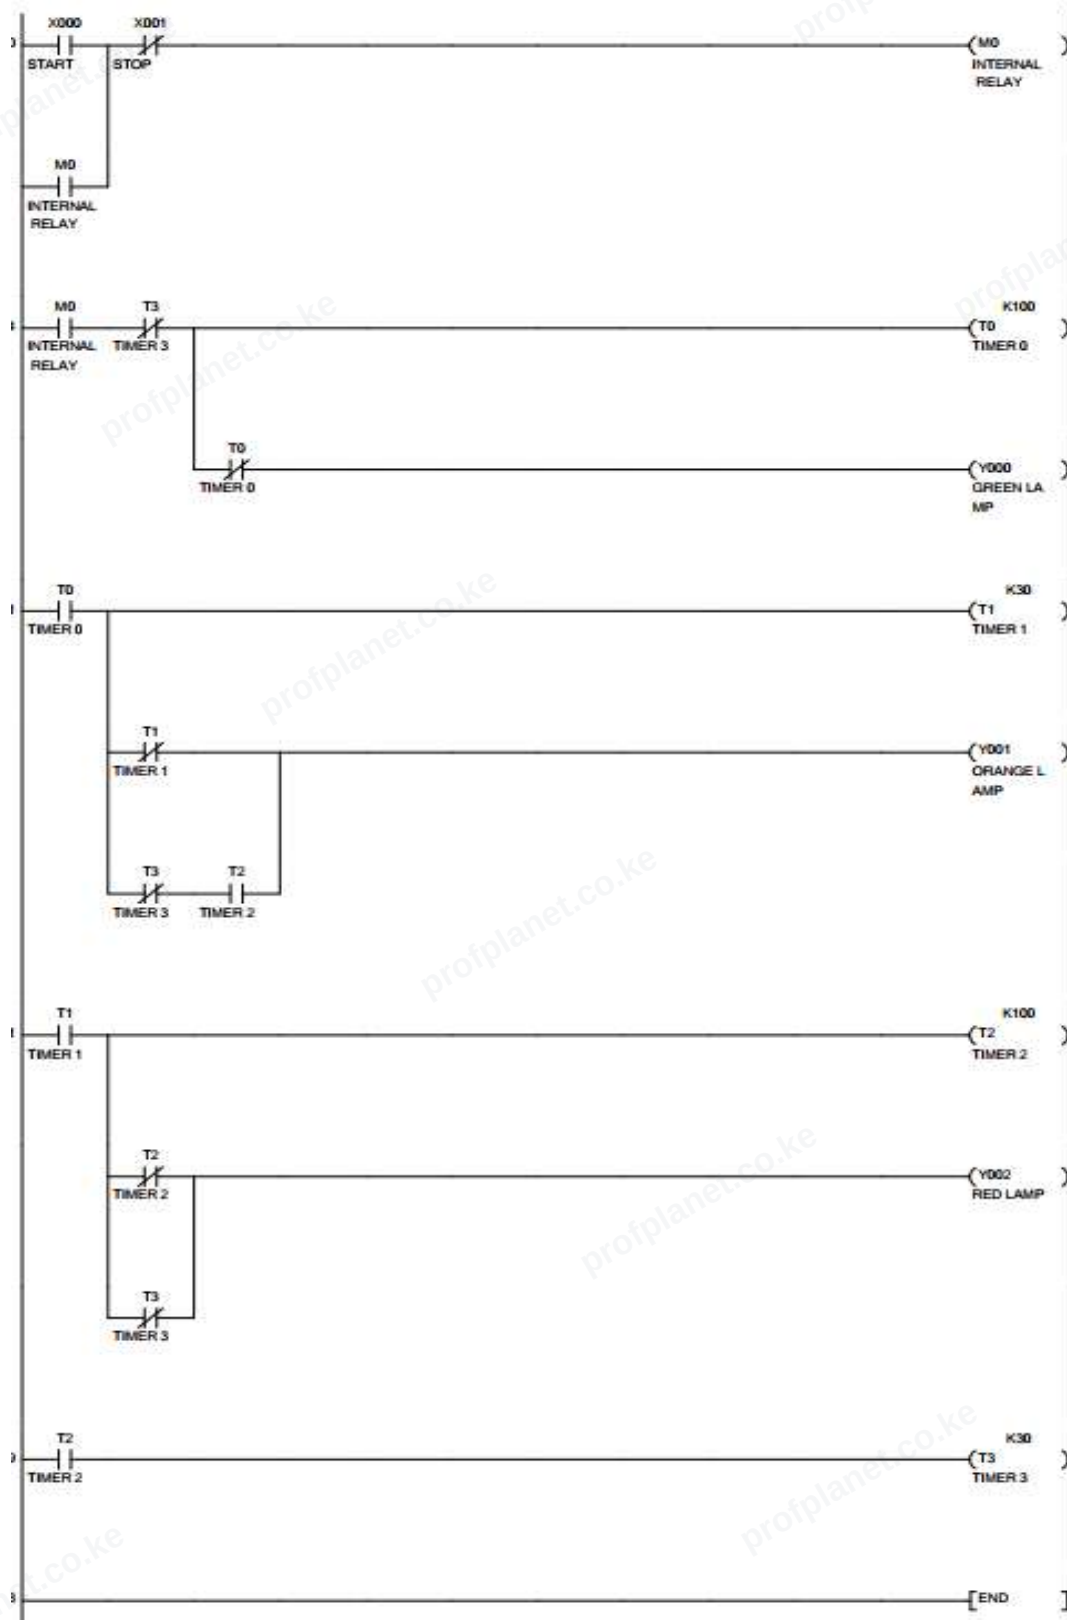

Figure 2
- i. Copy the PLC program shown in *Figure 2* on the provided PLC programming software.